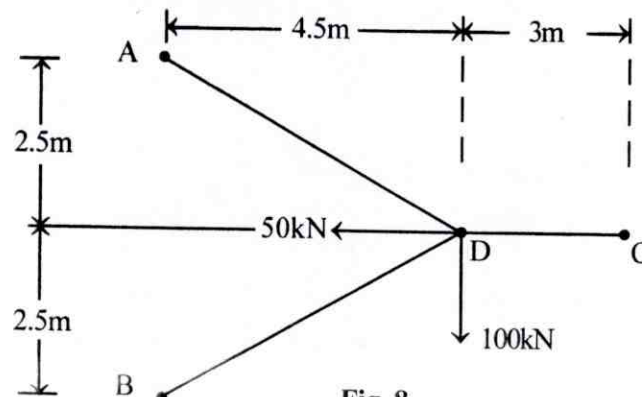

Fig. 8
5. In fig. 8, plan of a tripod is shown. The feet A, B and C being in some horizontal plane and apex D being 3.25m above the plane. Horizontal force of 100 kN and 50 kN are applied at D in the direction shown in fig. 8. Find the forces in member assuming that all joints are pin joints. (16)